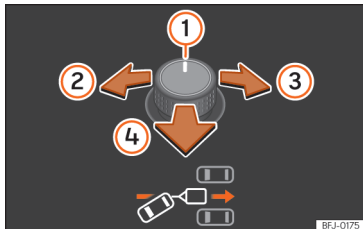
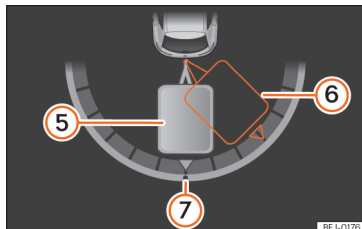

Fig. 206 Rotary exterior mirror controls.: adjust the trailer angle.
Fig. 207 Instrument panel display: engage reverse gear
Key of the **Fig. 206**, **»» Fig. 207**:
• Tilt the rotary control until the desired direction is reached **»» Fig. 206**. A representation of the tow vehicle and trailer set is shown on the instrument cluster screen for guidance purposes **»» Fig. 207**.